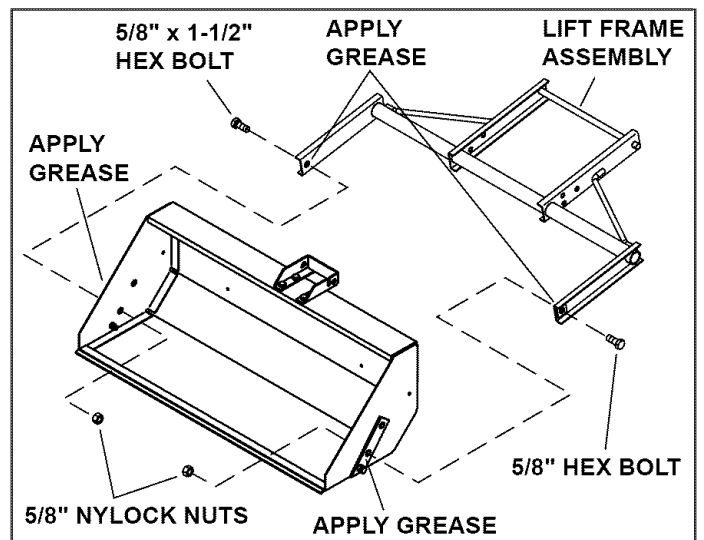

FIGURE 2
- Apply grease to the mounting surface of the bucket assembly and the inside of the lift frame arms. See figure 2.
- Assemble the lift frame assembly to the bucket assembly using two 5/8" x 1-1/2" hex bolts and 5/8" nylock nuts. **Tighten, then loosen** the nuts 1/4 turn, or until the lift frame pivots freely. See figure 2.